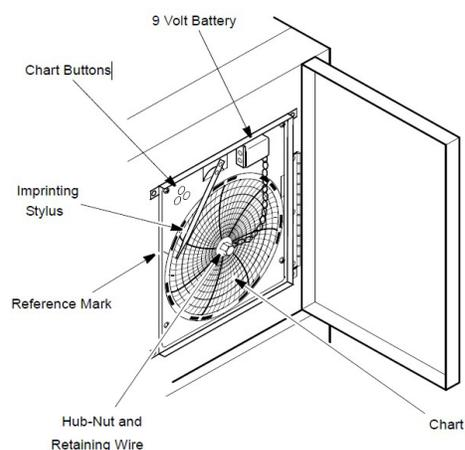

Figure 6. Six Inch Chart Recorder
3. Unscrew the center nut, remove the old chart paper, and install new chart paper. Carefully align the day and time with the reference mark on the recorder panel (a small groove on the left side of the panel, shown in Figure 6).